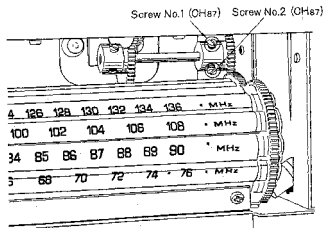

Fig. 28
1. Loosen the two (2) gear screws (nos. 1 & 2), as shown in fig. 28.
4. Tighten the two (2) gear screws (nos. 1 & 2), as shown in fig. 28.